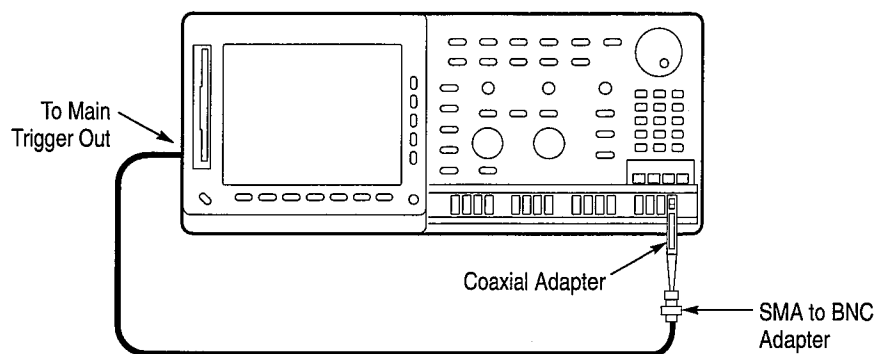

Figure 1–23: Test Hookup for Main Trigger Output Check
- a. Connect the **MAIN TRIGGER OUTPUT** at the rear panel to channel 1 through a 50  $\Omega$  precision cable, a coaxial adapter, and an SMA to BNC adapter (see Figure 1–23).